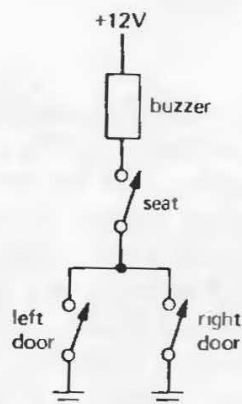

Figure 1.100
**Switch examples.** As an example of what can be done with simple switches, let's consider the following problem: Suppose you want to sound a warning buzzer if the driver of a car is seated and one of the car doors is open. Both doors and the driver's seat have switches, all normally open. Figure 1.100 shows a circuit that does what you want. If one OR the other door is open (switch closed) AND the seat switch is closed, the buzzer sounds. The words OR and AND are used in a logic sense here, and we will see this example again in Chapters 2 and 8 when we talk about transistors and digital logic.